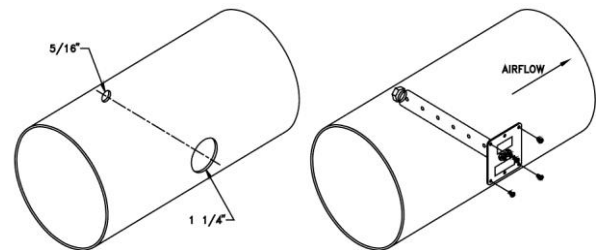

Figure 2: Flow Station Hole Location
2. Drill a 1¼" hole in the side of the duct work. If probe is longer than 18 inches drill a 5/16" hole directly across from the 1¼" hole (Figure 2).
5. Screw the flow station into place with sheet metal screws (screws not provided by TSI). On 18 inch and longer flow stations tighten the 5/16" nut. The finished installation should look like Figure 2.